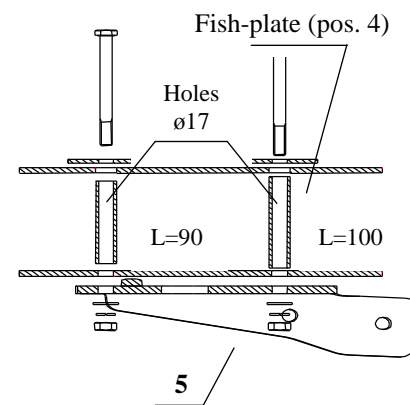

Fig. 2.
3. Put element (pos. 6) to the right chassis member (do it in such a way that a pin is compatible with a original holes and holes pos. C are compatible with a threaded holes. Fix it with bolts from the original towing eye.
4. Drill  $\varnothing 10,5$  mm through holes (pos. A and B) of element pos. 6 to the inside part of the boot. Then enlarge this hole by a drill  $\varnothing 17$ mm (do it only inside the boot). Next, slide a spacers  $L = 90$  and  $100$  mm, as it shown a sketch, and fix it with bolts according to figure 2.
5. Position element (pos. 5) to the left chassis member (do it in such a way that a pin is compatible with a fabric holes), then position the element in such a way that its edge raze to an chassis member's edge (compare to the right side). Drill  $\varnothing 10,5$  mm through the holes (pos. A and B) to the boot . Other activities like in point 5.
6. Slide main bar (pos. 1) between brackets (pos. 5 and 6 and fix it with M12x35mm bolts (pos. 9).
7. Fix body of the automat and place tow-ball according to supplied instruction. Note! Remember to place socket plate (pos. 3) as shown on the drawing 1.